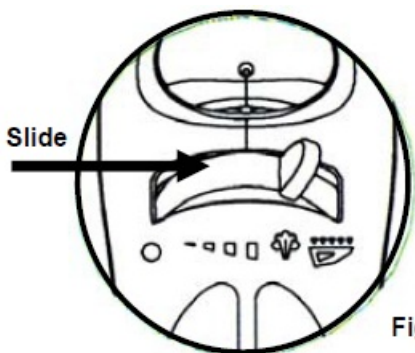

Fig. 3
3. Position variable steam control to the burst of steam position. (Fig. 3)
5. Slide the variable steam control up to increase the amount of steam. (Fig. 3) When using extra steam, the iron uses more water and it may be necessary to fill the tank more often. See page 4 for refilling the iron with water.